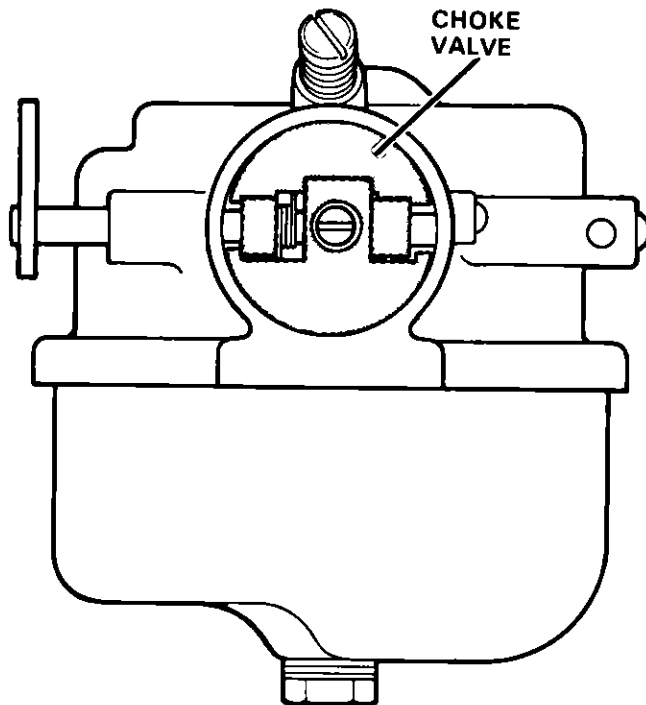

Figure 26 Position of Choke Valve.
- A Note position of choke valve. Figure 26.